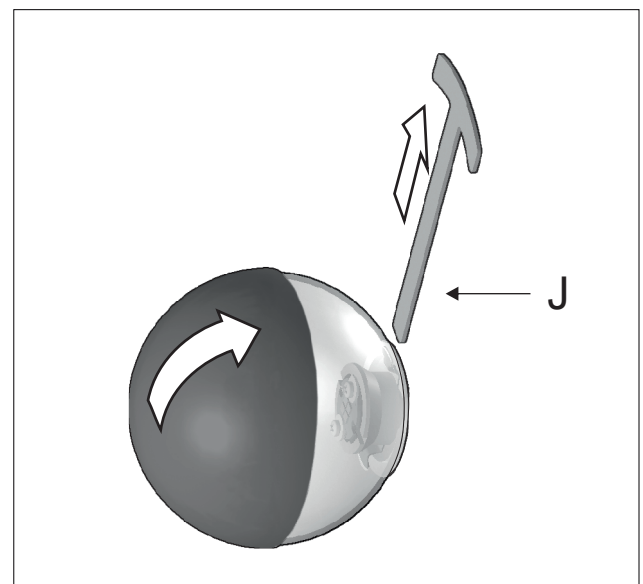

Figure 9b
Situating the screen in a horizontal position and remove the tool (J) slowly. Figure 9b.